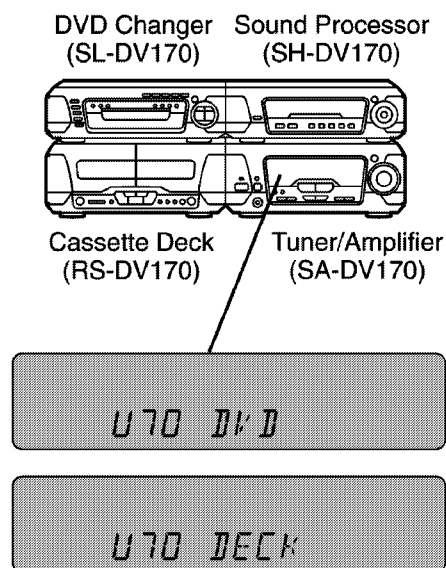

Fig. 8-1.
- U70 DVD:** Automatically displays on the tuner/amplifier when a malfunction occurs. Refer to Fig. 8-1.
- U70 DECK:** Automatically displays on the tuner/amplifier when a malfunction occurs. Refer to Fig. 8-1.
- F61:** Automatically displays on the tuner/amplifier when a malfunction occurs. Refer to Fig. 8-1.